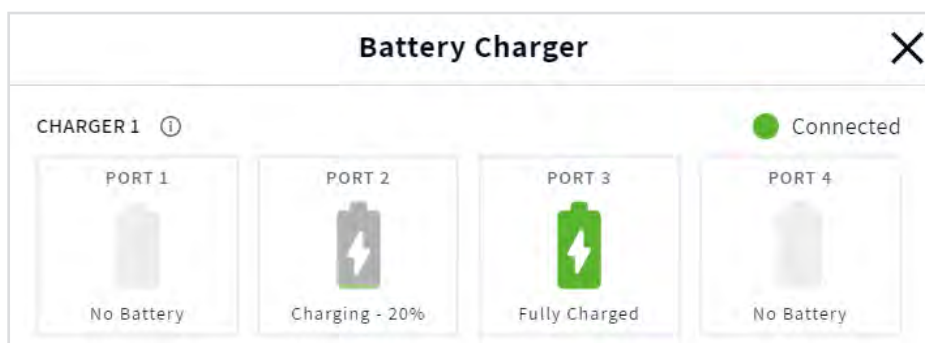

Fig. 1.9a
3. Tap the **Chargers** tile on the HOME screen to view charging status (if within range). Fig. 1.9a shows that Ports 2 and 3 have docked batteries. The battery in Port 2 is charging while the battery in Port 3 is fully charged.